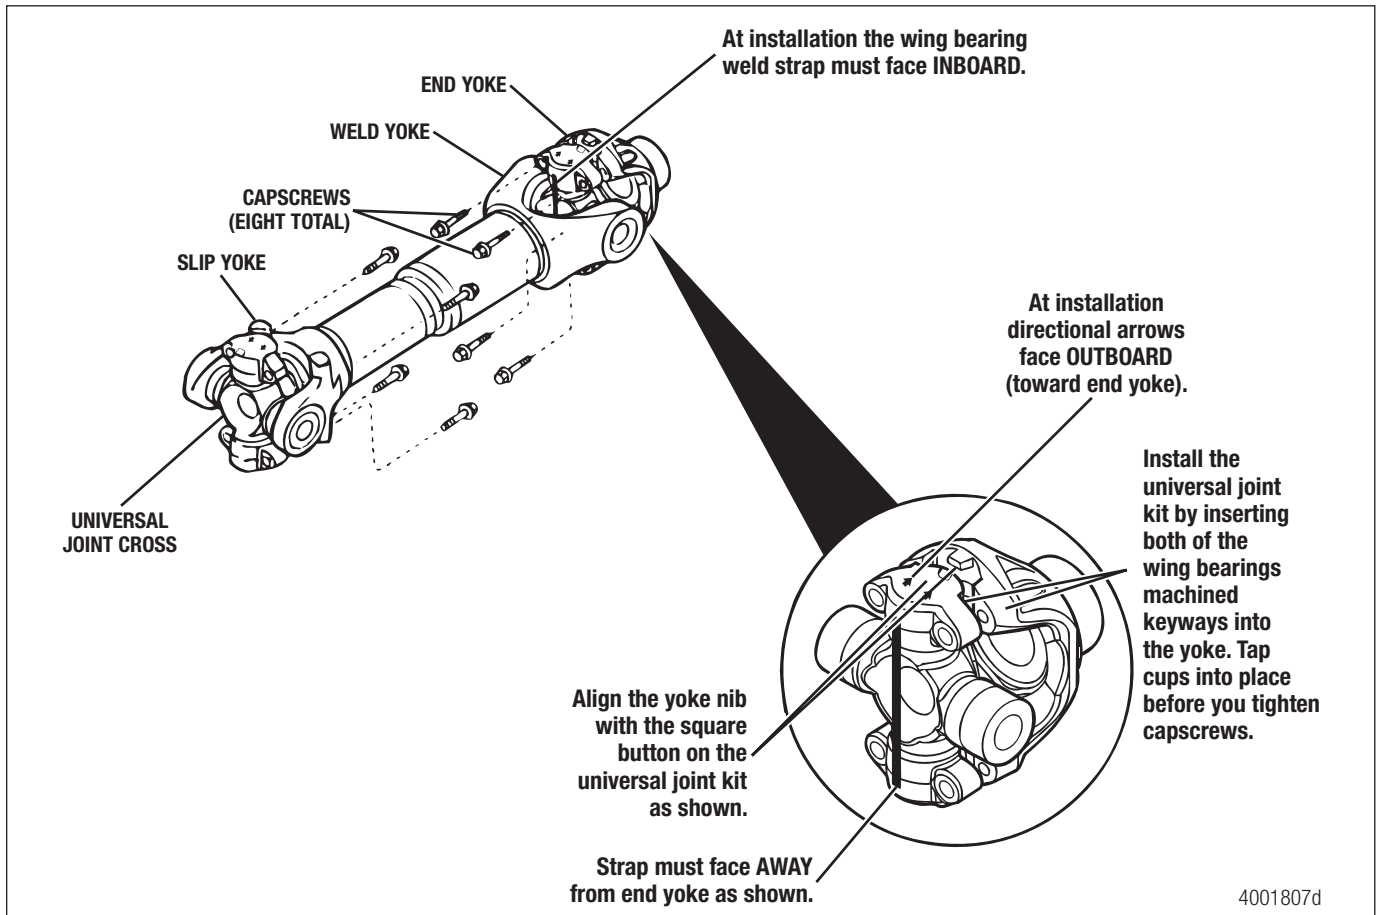

Figure 5.51
1. Clean dirt and contamination from the slip yoke and weld yoke ear bores. Figure 5.51.